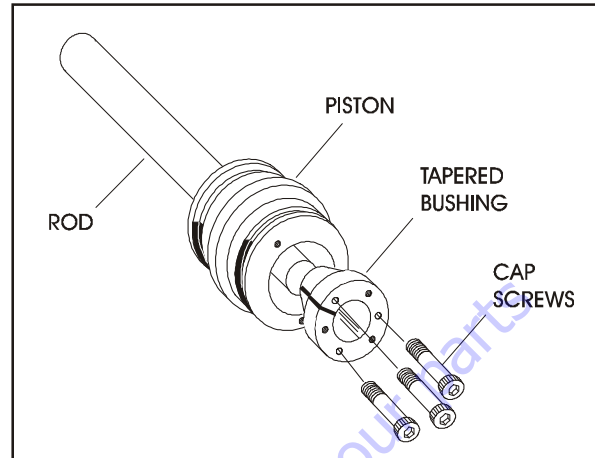

**Figure 2-15. Piston Seal Kit Installation**
**NOTE:** The backup rings for the solid seal have a radius on one side. This side faces the solid seal. (See magnified insert in Figure 2-15.) The split of seals and backup rings are to be positioned so as not to be in alignment with each other.
- Place new guide locks and seals in the applicable outside diameter grooves of the cylinder piston. (See Figure 2-15., Piston Seal Kit Installation)